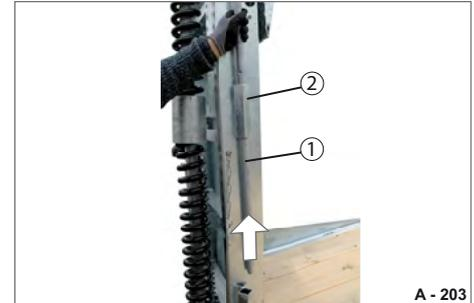

Fig. 82 Removing the operating pole
- ▶ Pull the operating pole (Fig. 82/1) upwards out of the holder (Fig. 82/2).